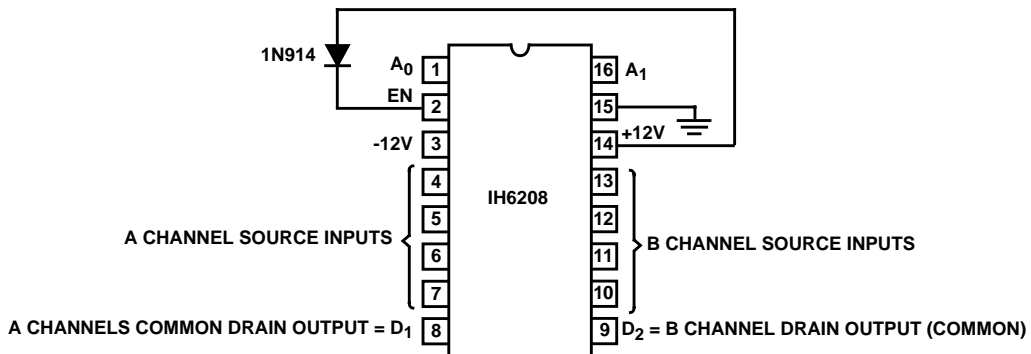

FIGURE 6. IH6208 CONNECTION DIAGRAM FOR LESS THAN ±15V SUPPLY OPERATION
Caution must be taken to ensure that the enable (EN) voltage is at least 0.7V below V_+ at all times. If this is not done, the Address input strobing levels will not function properly. This may be achieved quite simply by connecting EN (pin 2) to V_+ (pin 14) via a silicon diode as shown in Figure 6. When using this type of configuration, a further requirement must be met: the strobe levels of A0 and A1 must be within 2.5V of the EN voltage in order to define a binary "1" state. For the case shown in Figure 6 the EN voltage is 11.3V which means that logic high at A0 and A1 is +8.8V (logic low continues to be 0.8V). In this configuration the IH6208 cannot be driven by TTL (+5V) or CMOS (+5V) logic. It can be driven by TTL open collector logic or CMOS logic with +12V supplies.